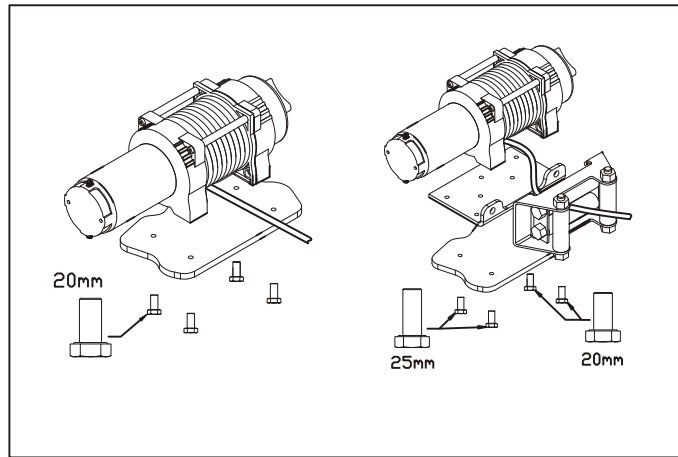

Figure 4: Orientation of winch to mounting plate and bolt lengths.
**Note:** When using separate winch mount and fairlead plates use hex head capscrews on the motor side of the base as shown in Figure 4.